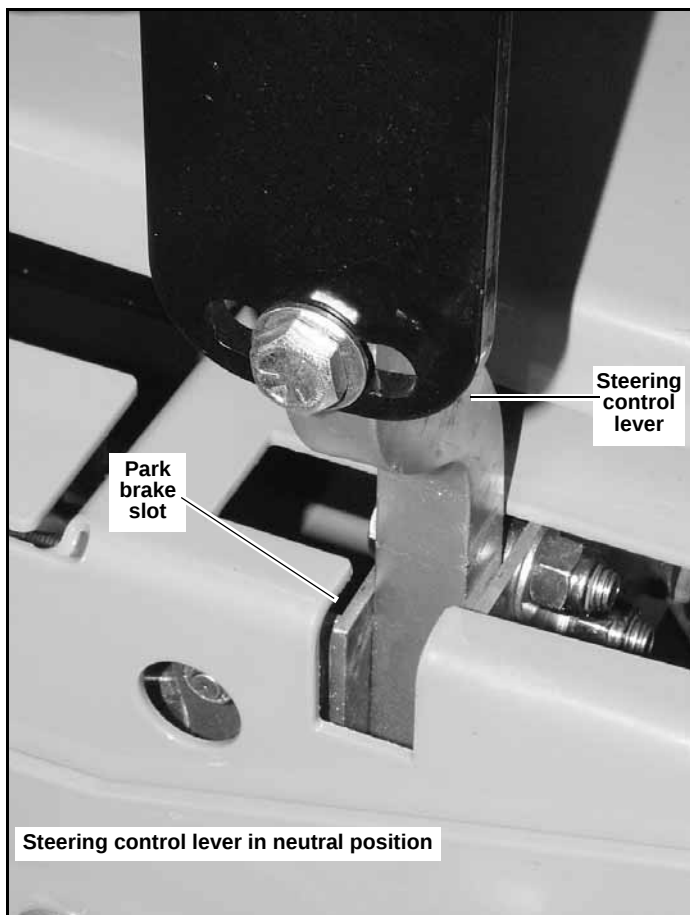

Figure 5-2
5. Position the steering control lever in the neutral position and observe which way the wheels are rotating. Figure 5-2